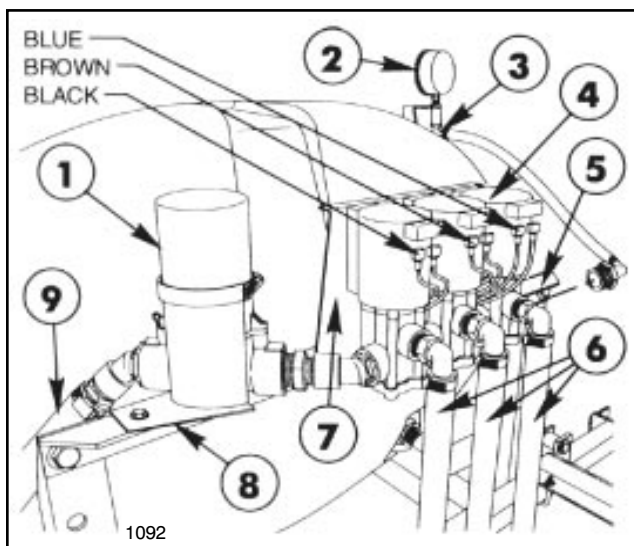

**FIG. 13**
14. Secure the two plates of the Boom Support Assembly to one of the Extension Boom Pipes, using two (2) 1/4" U-bolts, four (4) lock nuts and flat washers. See FIG. 13.
17. Attach three double barb and one single barb Turret Bodies with Clamp Assemblies on each Extension Boom Pipe as shown in Fig. 13.
18. Level Nozzles and space 20" apart. Connect the Turret Body Assemblies with 3/4" x 19" Jumper Hoses. Secure with hose clamps. See FIG. 13.